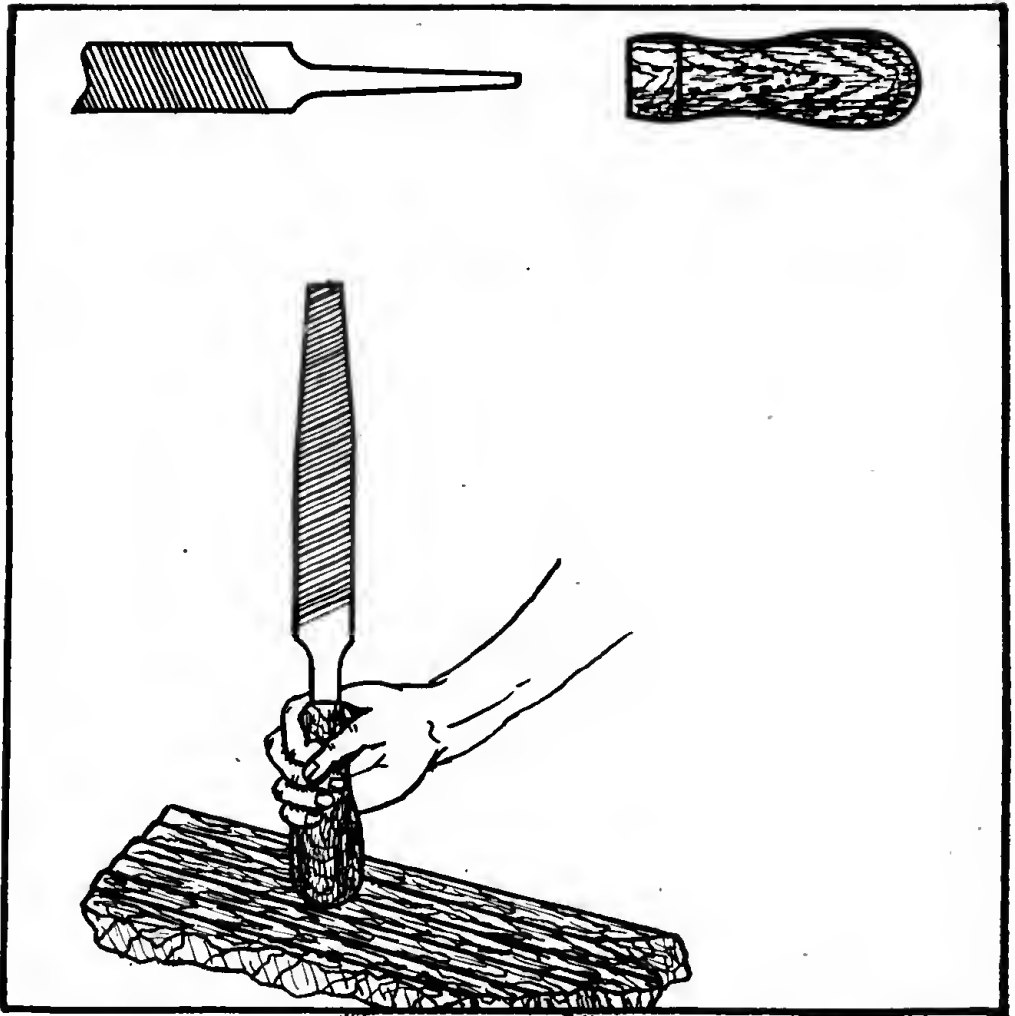

Figure 122. Method of mounting handle on a file.
(6) A file should never be used without a handle. It is not only more difficult to control, but also likely to cut the mechanic's hand. Figure 122 shows how to attach the handle to the file. The handle should be tight. Never salvage a file to make a punch or knife. The metal is far too brittle for this purpose. Never use a file as a pry or hammer. It will probably break, throwing off small, sharp bits of steel.